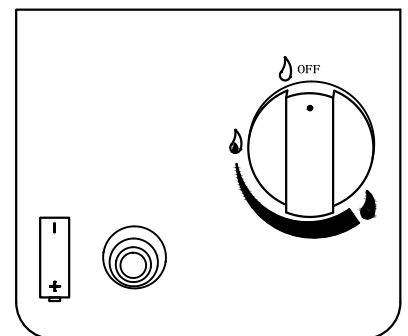

Figure 3
2. Make sure control knobs are in the “OFF” position (Figure 3).